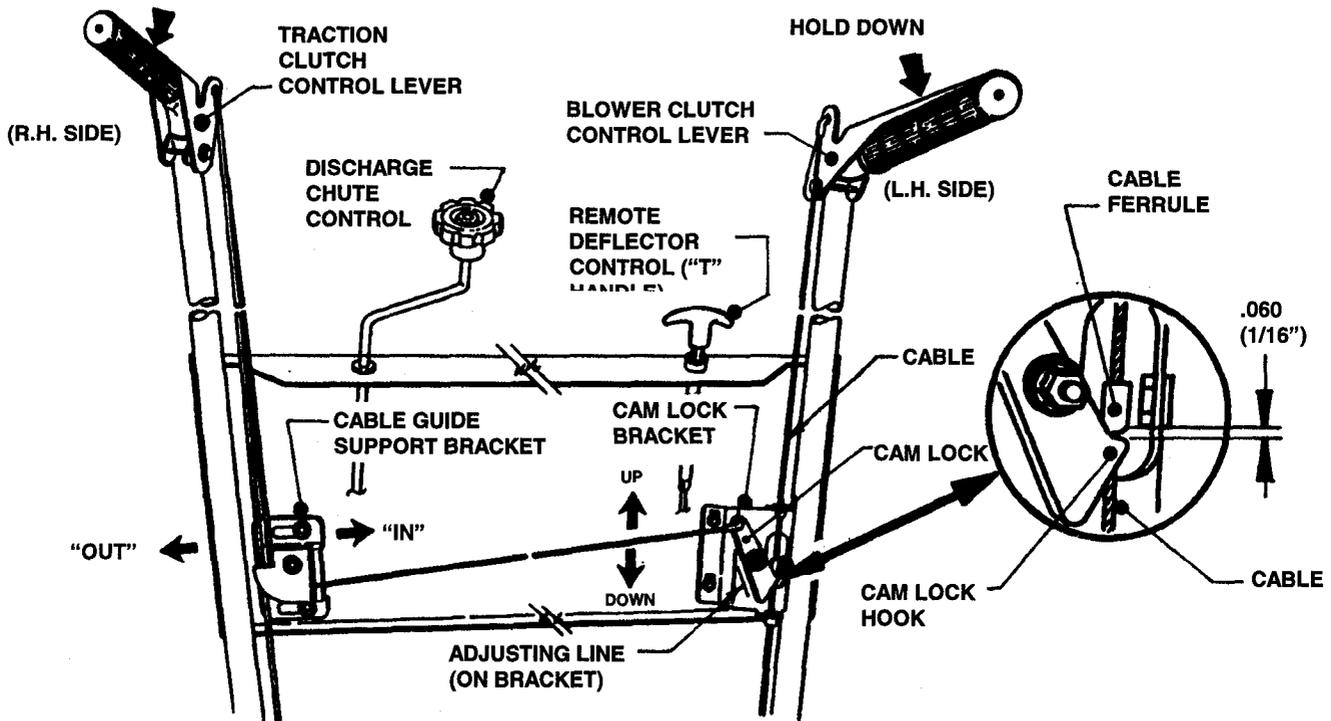

FIGURE 4.11
1. Hold the wheel drive control lever down against the handle. See Figure 4.11.
5. Check the position of the cable ferrule in relation to the cam lock. The ferrule must be located $1/16"$ (.060) above the hook of the cam lock. To adjust, loosen the three nuts that secure the cam lock bracket. Slide bracket up or down until correct measurement is achieved. Retighten nuts securely. See Figure 4.11.